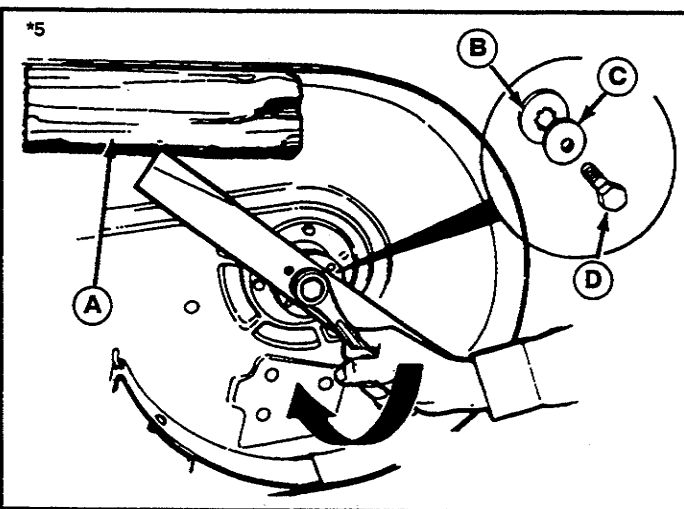

Figure 29. Installing The Blade
6. Reinstall each blade with the tabs pointing up toward deck as shown in figure 29. Secure with a capscrew (D), cup washer (C) and spline washer (B). Use a wooden block to prevent blade rotation and torque capscrews to 50-70 ft.lbs. (67-95 N.m.).